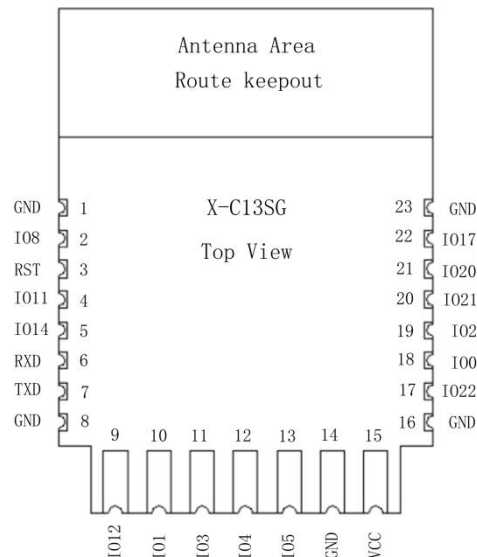

Figure 2. X-C13SG Pin Layout (Top View)
| FIGURE 2. X-C13SG PHYSICAL DIMENSIONS.....       | 8  |
- X-C13SG comes with a on-board PCB antenna, please refer to Figure 2.